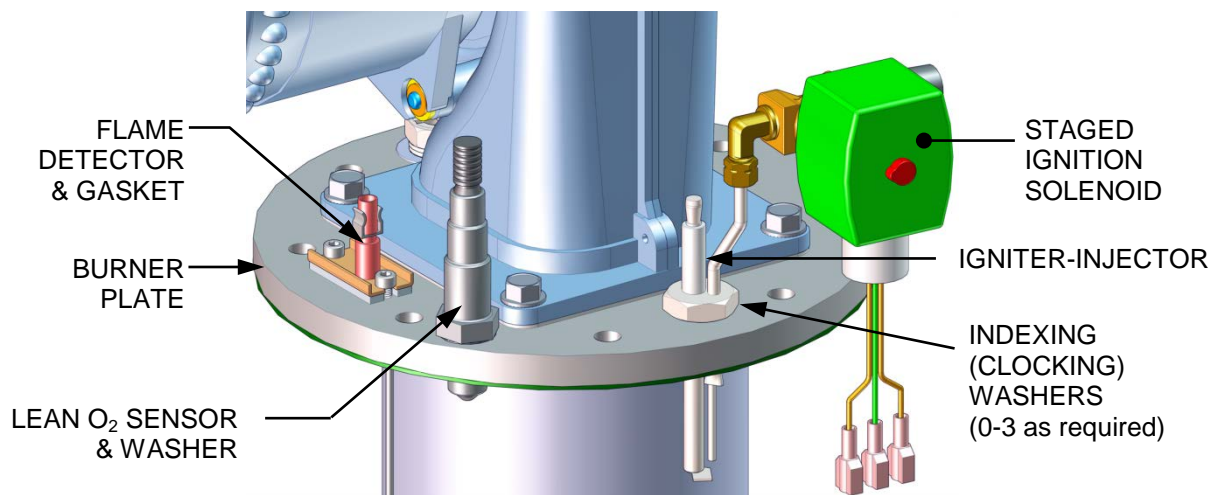
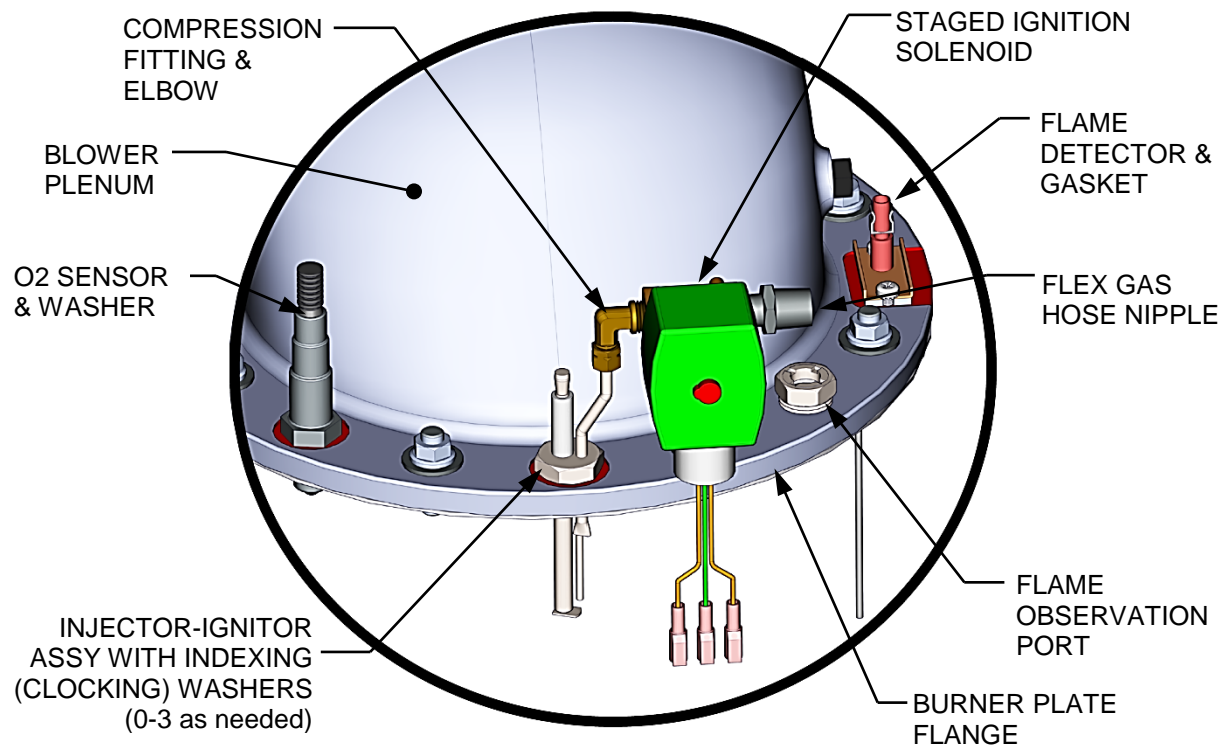

Figure 5-2a: BMK 750/1000 Igniter-Injector & Flame Detector Mounting Details
Figure 5-2c: BMK 2500/3000 Igniter-Injector & Flame Detector Mounting Details
4. Referring to Figure 5-2a – Figure 5.2c, below, use a 7/16” open-end wrench to disconnect the compression nut securing the gas injector tube of the igniter-injector to the elbow of the staged ignition assembly. Disconnect the staged ignition assembly from the igniter-injector.
2. Remove the top shroud from the unit by grasping the top handle and lifting straight up. This will disengage the shroud from the four (4) pins in the side panels.
4. Remove the two (2) screws securing the flame detector to the plate (Figure 5-2a – 5-2c).